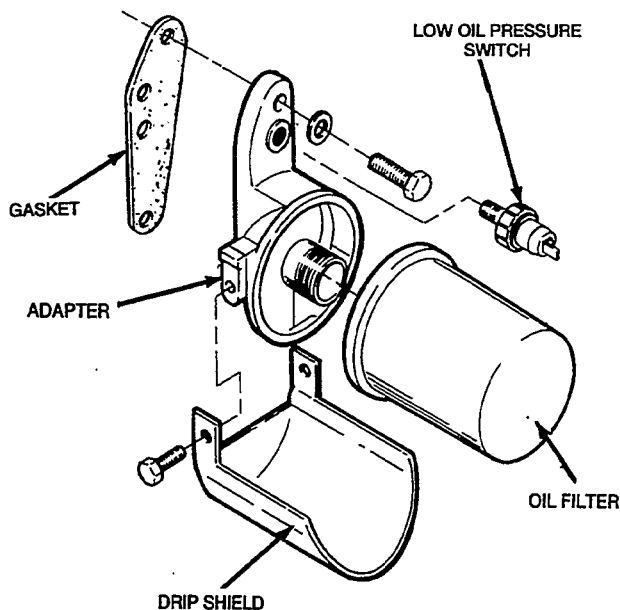

FIGURE 9-1. OIL FILTER AND ADAPTER
2. Remove the filter (see Figure 9-1) by turning it counterclockwise with a filter wrench.